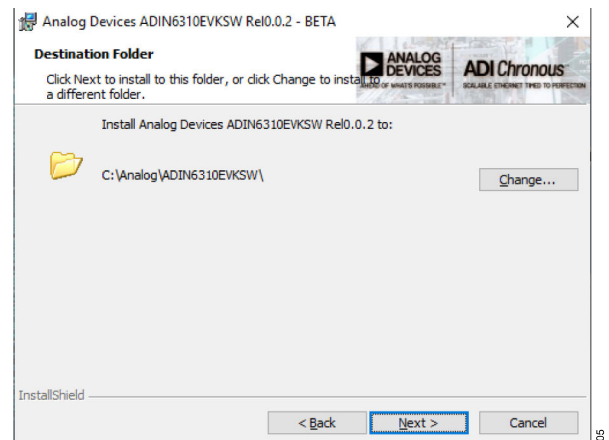

Figure 5. Select Destination Folder
6. Select the location to install the **TSN Switch Evaluation** software and click **Next** (see Figure 5).